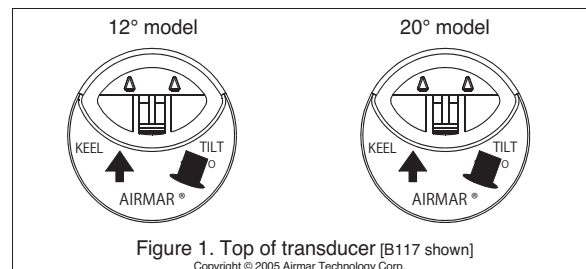
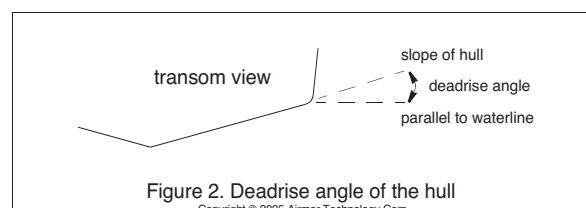

Figure 1. Top of transducer [B117 shown]
Figure 2. Deadrise angle of the hull
Be sure the tilt angle of your transducer model matches the deadrise angle of your hull at the mounting location. The tilt angle is printed on the top of the transducer (Figure 1). To measure the deadrise angle of your hull at the selected mounting location, use an angle finder or a digital level (Figure 2).
**12° and 20° models**—From inside the hull, point the arrow on the top of the transducer (and the cable exit) toward the KEEL or centerline of the boat (Figure 1). This will align the angle of the element inside the transducer with the deadrise angle of your hull.